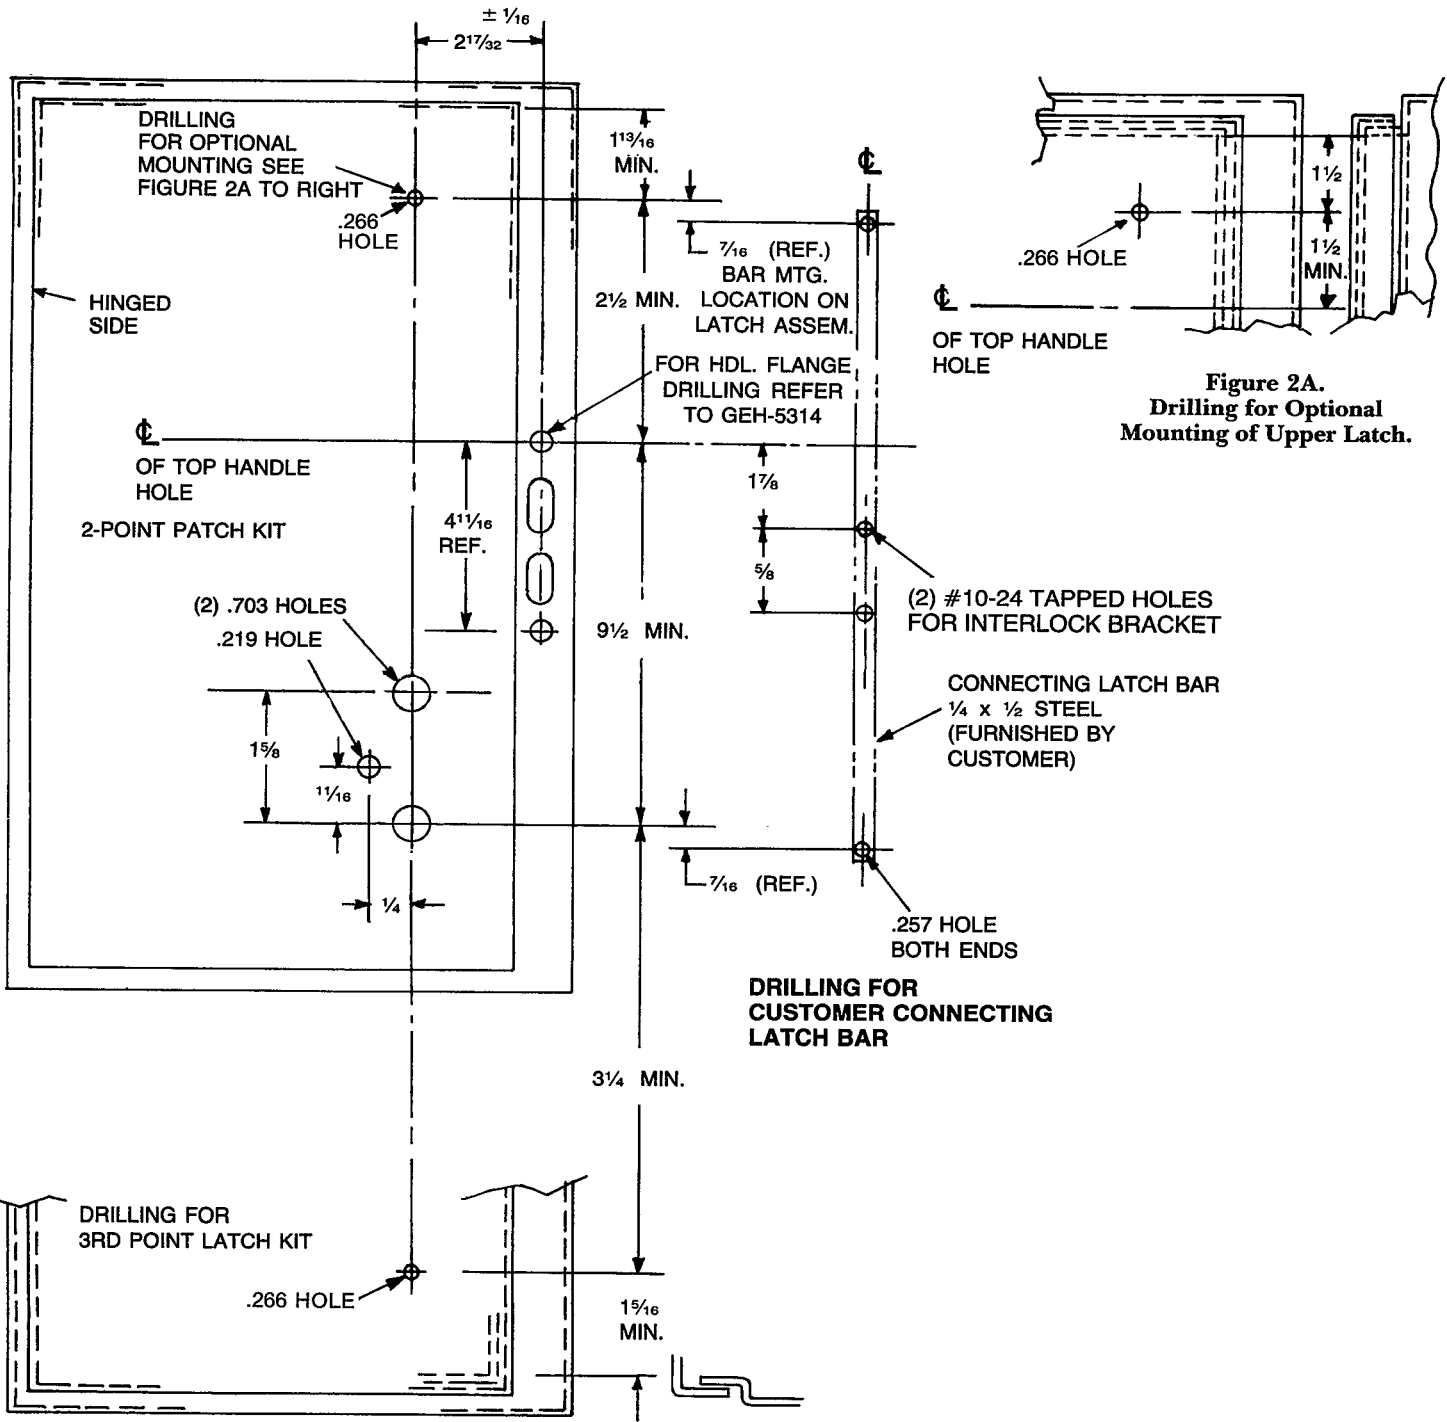

Figure 2. Right hand door drilling – door hinged on left (reverse for left hand door).
1. If enclosure door has not been pre-drilled, punch or drill holes shown in figure 2.
2. Place rubber washer (21), between inside of enclosure door and pivot stud (20), and secure them in place with tamperproof screw (22). Keep bearing surface free of paint and lubricate the surface. The two point latching system (Cat. No. TDV1 Series) uses one stud post at top of door and the three point system (Cat. No. TDV1 Series plus Cat. No. TDV3 or TDV3L) uses two (one at top, one at bottom of door).
3. Drill holes in latch bar (provided by customer) per figure 2. Attach roller assemblies (10) & (19) to latch bar through .257 inch diameter holes with a stud and cotter pin (14) and (16). Note roller assembly with .375 inch square hole will be mounted over pivot stud (20). If interlocking is required attach interlock bracket (23) with 10-24 screws (35) and lockwashers (36), on the connecting latch bar as shown in figures 2 and 3.
4. Position handle plate assembly (4), over gasket (5), on door and attach it in place by threading in the two bushings (6).
5. Lubricate shaft and "O" ring assembly (2) and push assembly from the outside of enclosure into lower